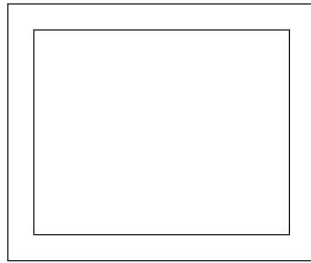

FIGURE 2.15: The box with all corners cleaned up
5. Continue restarting the command and filleting the lines for each corner until all corners are cleaned up (see Figure 2.15).